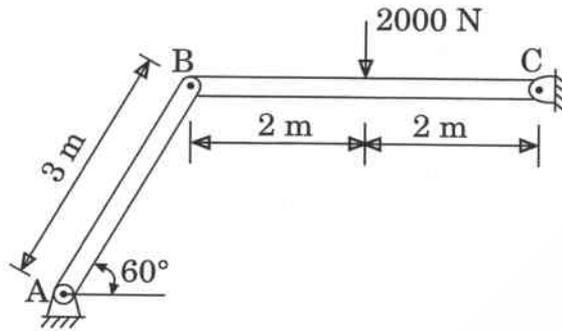

Figure 1(a)
- Q1. (a) Determine the horizontal and vertical components of force which the pin at 'C' exerts on member BC of the frame in Figure 1(a). 8